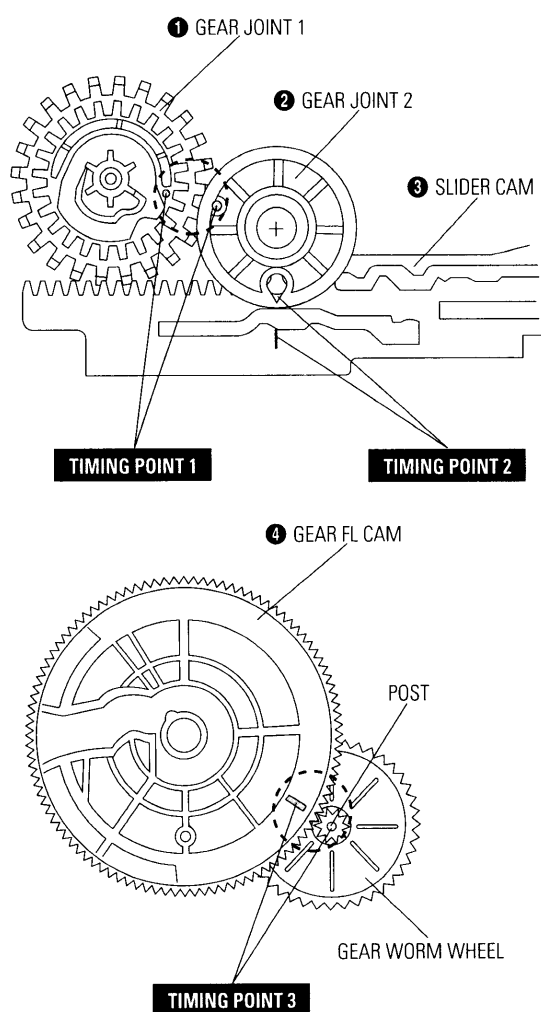

Fig. 4-15 Assembly of Gear FL Cam, Gear Joint 1, 2
- 1) Be sure to align dot mark of Gear Joint 1 ❶ with dot mark of Gear Joint 2 ❷ as shown Fig. 4-15 (Refer to Timing Point 1), confirm the Timing Point 2 of the Gear Joint 2 ❷ and Slider Cam ❸.
- 2) Align the Gear FL Cam ❹ with the Gear Worm Wheel Post as shown detail drawing. (Refer to Timing Point 3)